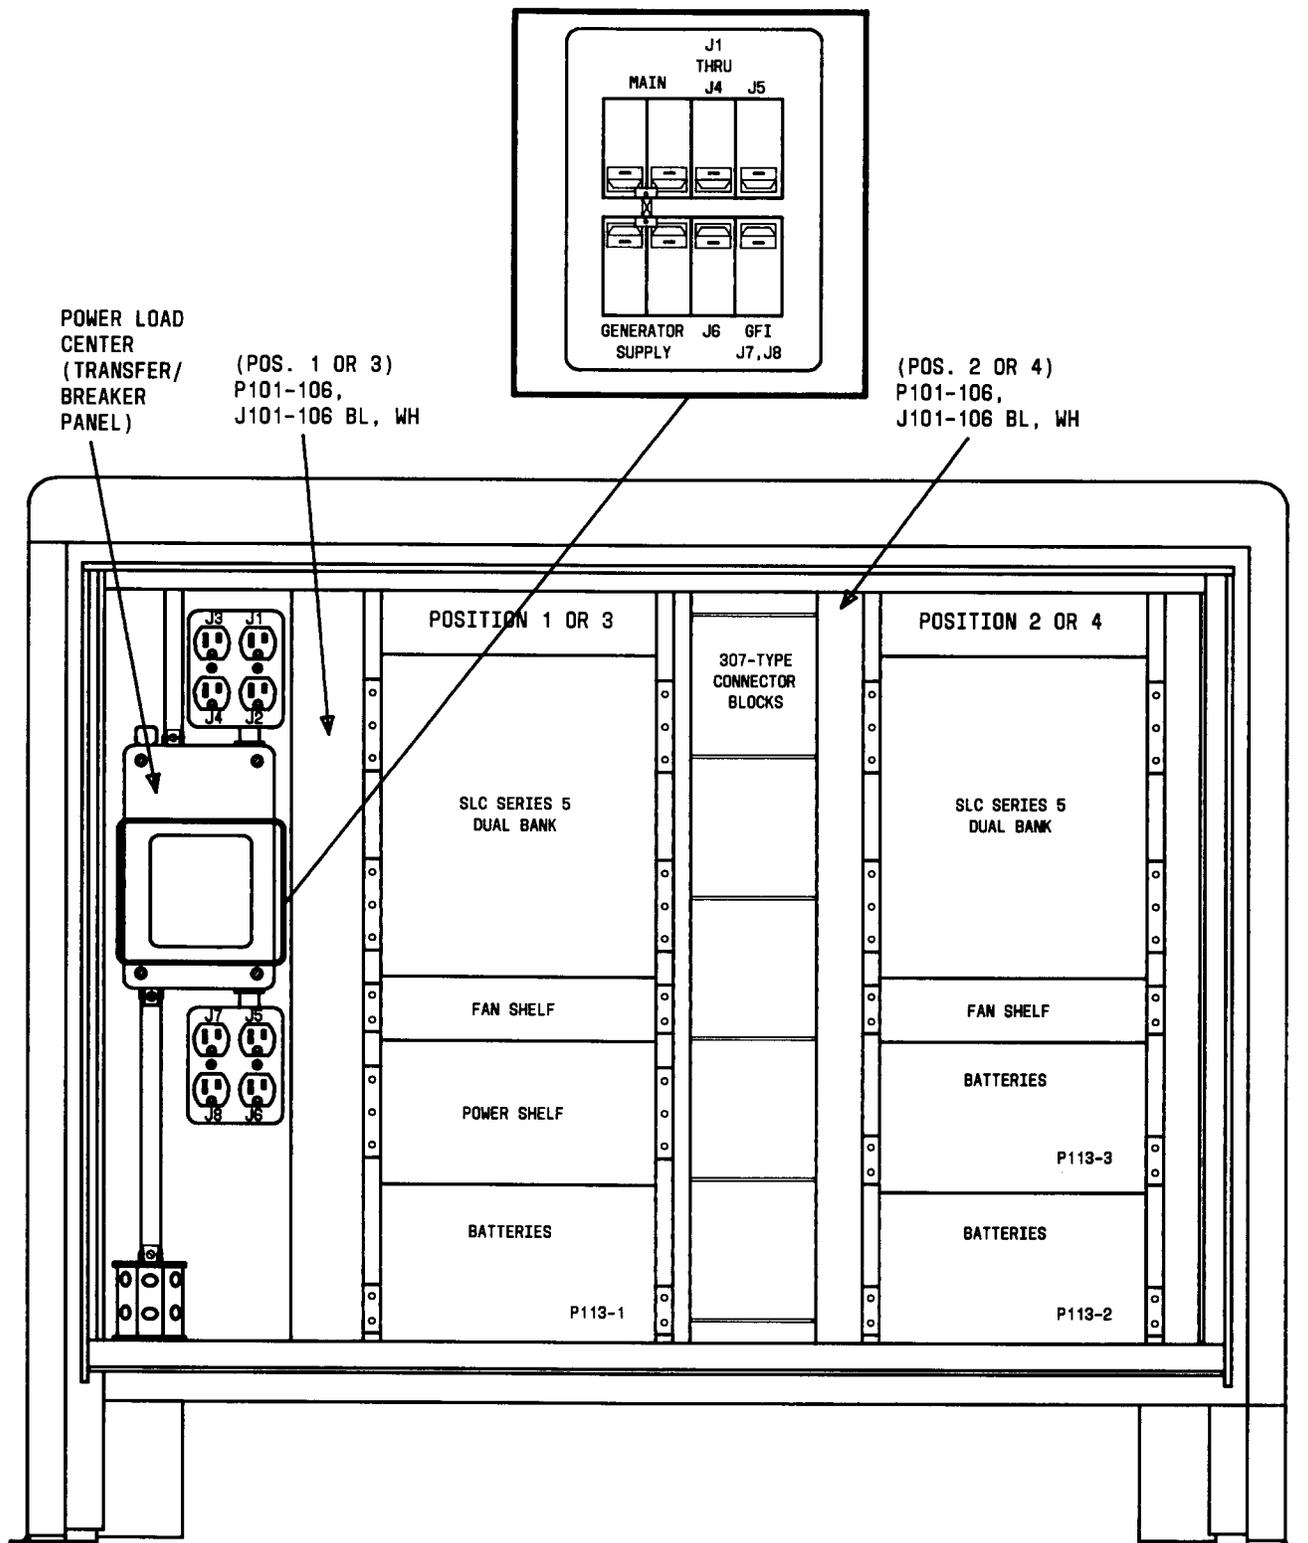

Fig. 3—Intermediate Cabling and Interconnection, 80D Cabinet (Phase 1)
19. From work order, verify that digital line pairs, derived pairs, and miscellaneous pairs have been properly connected to outside plant cables and/or cross-connect field (Figure 3).